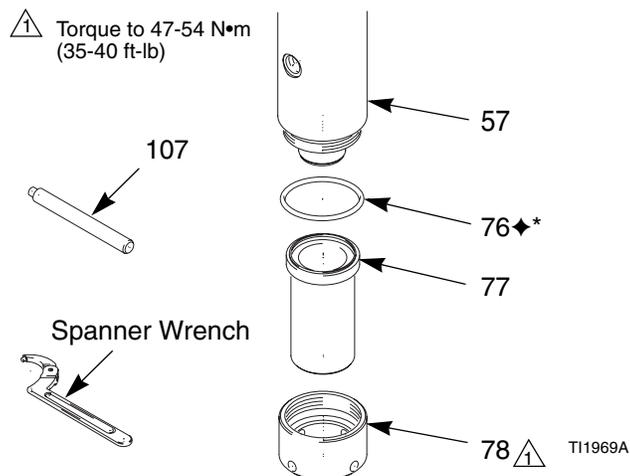
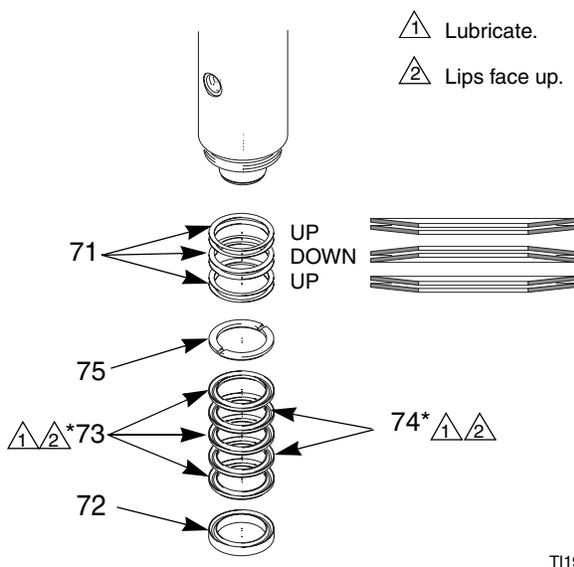

FIG. 13. Lower Cylinder
FIG. 14. Piston Packings
2. Using the supplied tool (107) or a spanner wrench, unscrew the union nut (78) from the upper cylinder (57) and slide it off the pump. Remove the lower cylinder (77) and the flat seal (76). Inspect the inner surface of the cylinder for damage. See FIG. 13.
3. Remove the piston packings. See FIG. 14.
6. Install the o-ring (55♦) and seat (54♦) in the piston body (56). Install the large o-ring (53♦). Lubricate the o-ring (53♦) and threads of the piston. Place the ball (52♦) on the seat. Screw the piston into the rod (51). Torque to 102-108 N•m (75-80 ft-lb).
7. Install the seal (76*♦) on the lower cylinder (77). Install the female gland (72), v-packings (73*, 74*), and male gland (75) into the cylinder. Alternate the v-packings, with the lips facing up. See FIG. 14.
9. Assemble the spring discs (71); the bottom two face up, middle two face down, top two face up. Place the spring on top of the packing stack.
10. Position the lower cylinder (77) over the end of the displacement rod (51), sliding the packing stack onto the rod and into the upper cylinder (57).
11. Slide the union nut (78) onto the lower cylinder (77) and thread it onto the upper cylinder (57). Tighten with a spanner wrench. Torque to 47-54 N•m (35-40 ft-lb). See FIG. 13.